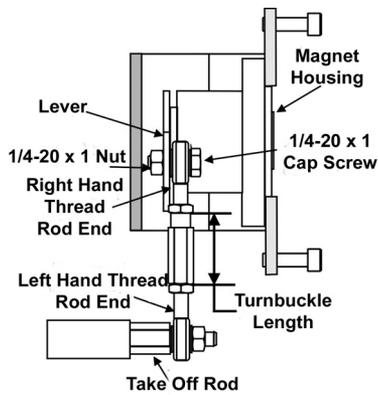

Figure 16 - Reciprocating Linkage
5. Thread the take-off rod to the actuator stem connector. Refer to Figure 16 on page 31. Ensure that the travel pointer located on the coupling is correctly positioned.
10. Thread the turnbuckle onto the left hand threaded rod end (Figure 16).